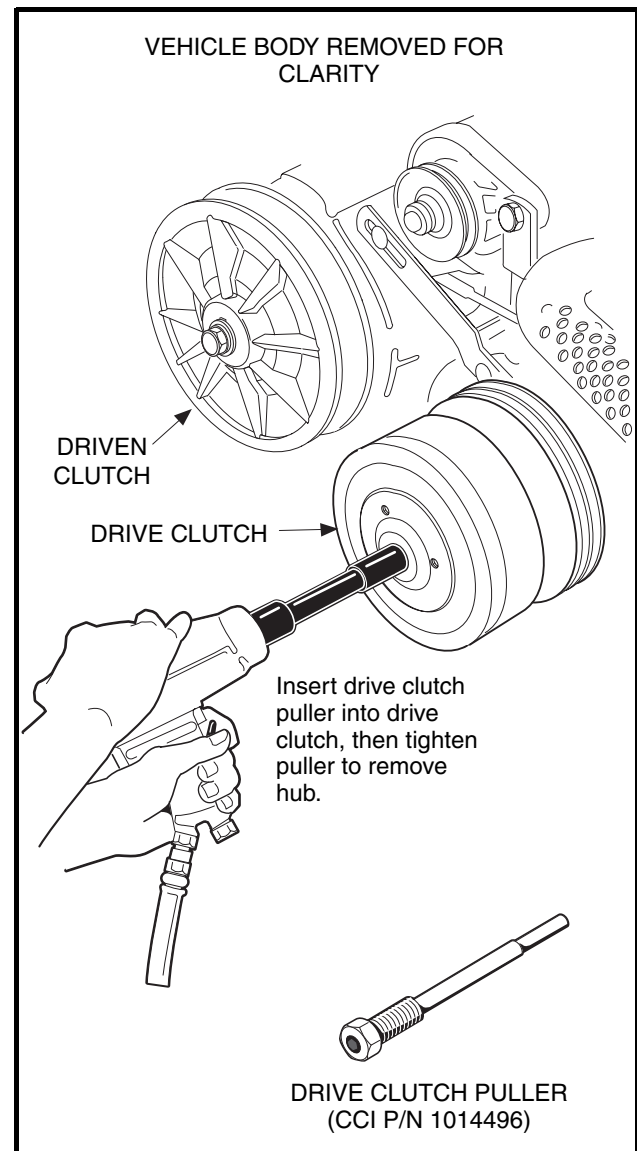

Figure 17-4 Drive Clutch Removal
6. Use a 1/2-inch drive air wrench to tighten the clutch puller tool. The drive clutch will come free of the crankshaft (**Figure 17-4, Page 17-4**).